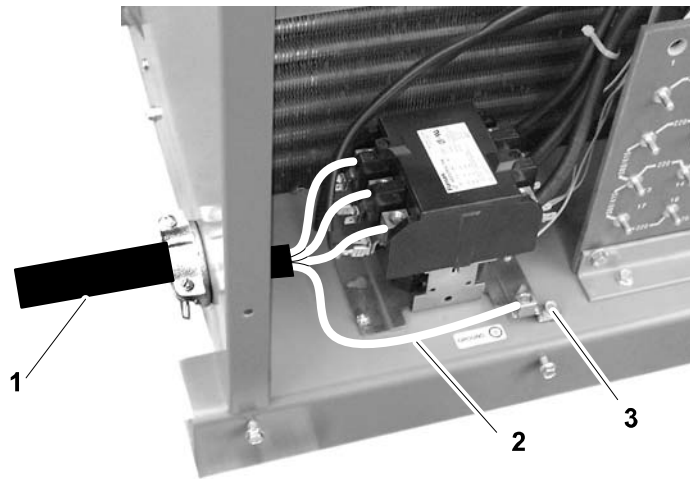

Fig 7 Input Power Cable - Detail View, left side
- Thread the input conductor cable from the wall disconnect switch through the strainrelief in the rear panel of the main contactor (MC). Connect the primary power leads to the main contactor terminals (see Figure 7) using UL listed pressure wire connectors. Also connect the ground wire to the stud provided on the chassis base inside the left-rear of the cabinet. Secure the input cable by tightening the strain relief coupling.